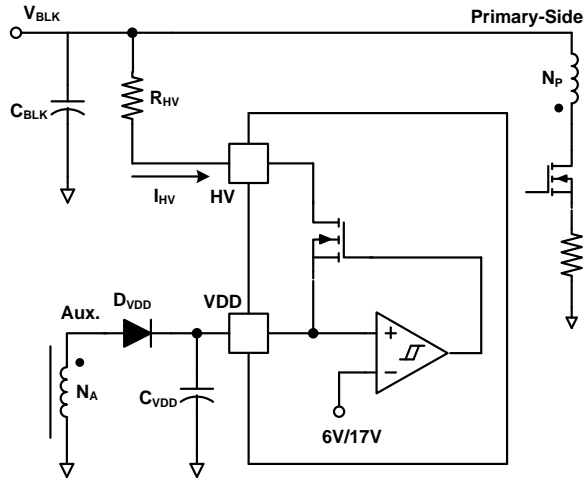
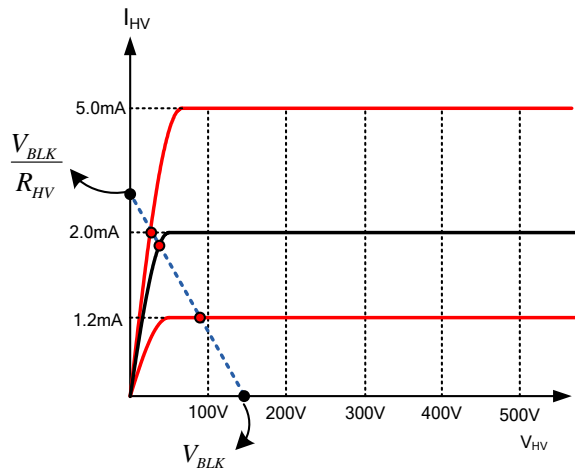

Figure 30. HV Startup Circuit
Figure 31. V-I Characteristic of HV Pin
Figure 30 shows the high-voltage (HV) startup circuit for FAN501A applications. The JFET is used to internally implement the high-voltage current source (see Figure 31 for characteristics). Technically, the HV pin can be directly connected to voltage (V_{BLK}) on an input bulk capacitor. To improve reliability and surge immunity, however, it is typical to use a \sim 100 k Ω resistor between the HV pin and bulk capacitor voltage. The actual HV current with a given bulk capacitor voltage and startup resistor is determined by the intersection of V-I characteristics line and load line, as shown in Figure 31.